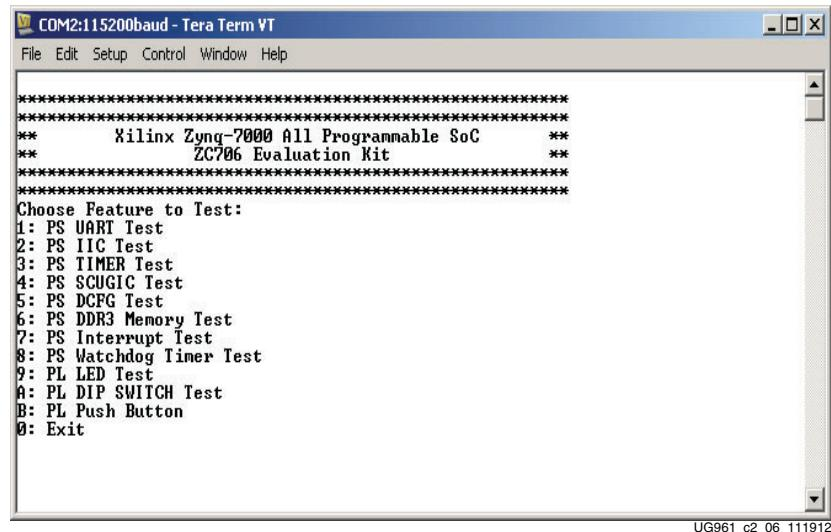

Figure 2-6: The ZC706 BIST Menu
3. Run the script file in C:\zc706_bist\ready_for_download\zc706_bist.bat (see Figure 2-6).